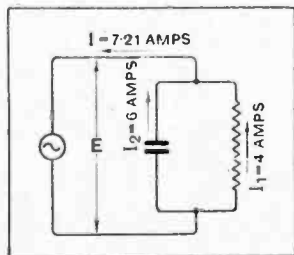
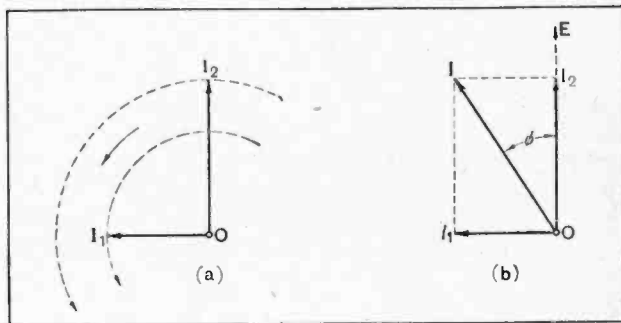

Fig. 6.—A condenser and a resistance in parallel take currents a quarter of a cycle out of phase. In this case $I = \sqrt{I_1^2 + I_2^2}$ as shown by Fig. 8.
Fig. 8.—Vectors representing the currents of Fig. 6. OI is the "vector sum" of OI_1 and OI_2 .
The next step is to consider a case where the two alternating quantities concerned are out of phase, that is, where the two sine waves do not reach their maximum positive values together. To simplify the reasoning, the rather special case will first be dealt with in which two alternating currents of equal frequency are just a quarter of a cycle out of step, so that one just reaches its maximum value as the other passes through zero. If a non-inductive resistance is connected in parallel with a condenser, as shown in Fig. 6, to a source of A.C. supply, the resistance will take a current exactly
Since one revolution of a vector represents one cycle of the alternating quantity, it follows in this case, where the two alternating currents are out of phase by a quarter of a cycle, that the two corresponding vectors will have an angle representing a quarter of a revolution between them, that is, the angle between the vectors will have to be a right angle or 90 degrees. So the two vectors OI_1 and OI_2 are drawn at right angles to each other as shown in Fig. 8 (a). If these are drawn to scale, OI_1 would represent the 4 amperes in the condenser branch of Fig. 6, and OI_2 the 6 amperes in the resistance branch.
Fig. 7.—The sine curves (1) and (2) represent the currents of Fig. 6, being a quarter of a cycle out of step. The dotted curve gives the sum of these two currents at all times.
Since the imagined rotation is anti-clockwise, OI_1 is said to *lead* OI_2 by an angle of 90 degrees or by a quarter of a cycle. This conforms to the circuit of Fig. 6: if the vector representing the supply voltage were included it would be parallel to OI_2 in Fig. 8.
It is a very easy matter to find the sum of the two currents from the vectors of Fig. 8 (a). All that is necessary is to complete the rectangle $O I_1 I_2$ as shown in Fig. 8 (b) and to draw the diagonal OI . Then the length of OI gives the R.M.S. value of the total current to the same scale as the other vectors. Fig. 8 (b) is a simple vector diagram.